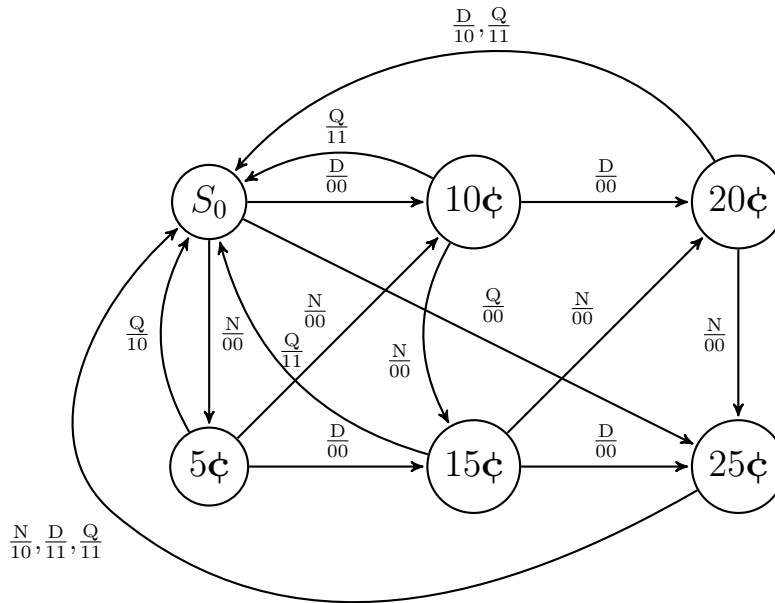

Figure 14.3: State diagram for the vending machine circuit.
A vending machine requires 30¢ to dispense a can of soda. Users can insert nickels (N), quarters (Q) or dimes (D) in any combination. The vending machine can be implemented as a Mealy machine. There are two outputs to the state machine: V (vend) is 1 if the amount of money inserted is greater than or equal to 30¢, and H (change) is 1 if the amount of money inserted is greater than (but NOT equal to) 30¢. The state diagram is shown in figure 14.3.
1. Use figure 14.3 to fill out the state table for the circuit.
C.S.	Next State				Outputs (VH)